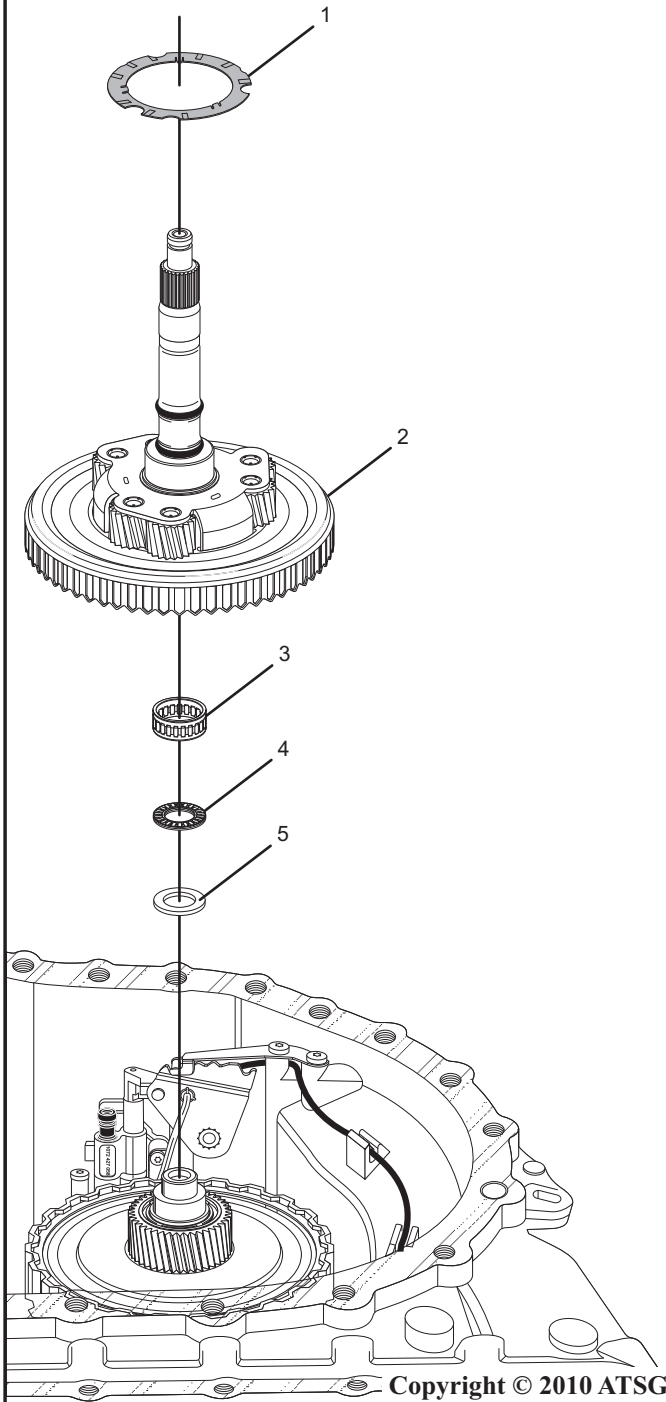

Figure 14
25. Remove the input shaft/front planetary carrier thrust washer as shown in figure 14.
26. Remove the input shaft/front planetary carrier as shown in figure 14.
27. Remove the input bearing (caged needle bearing) as shown in figure 14.
28. Remove the input bearing (flat needle bearing) as shown in figure 14.
29. Remove the thrust washer (selective) as shown in figure 14.